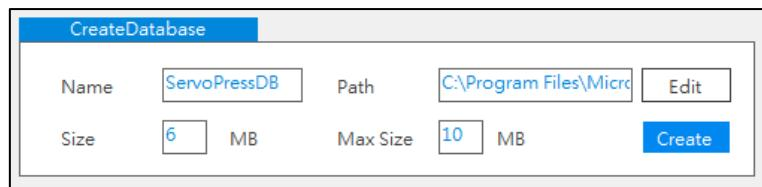
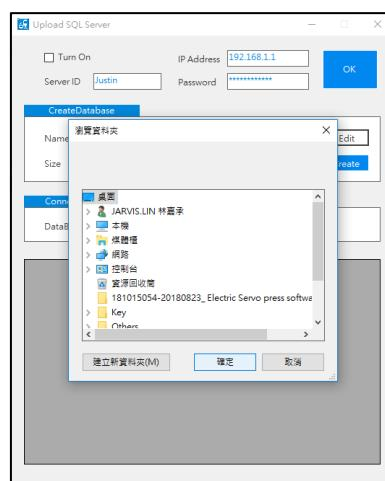
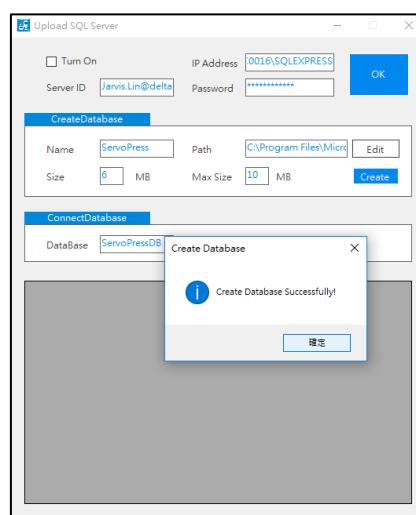

Figure 5-1-4 Create database
Figure 5-1-5 Change database path
Figure 5-1-6 Database successfully created
- (2) **Create database:** This function creates an assigned database including database name, database path, file size, and max file size for DIAServoPress data uploads in the connectable server, as shown in Figure 5-1-4. The database is named by the user. Once created, subsequent usage through [Connect Database] must be connected by this name. The database path is the created database's file access location, as in Figure 5-1-5. The file size is the initial size of the database file. The max file size is the upper limit for database file size after data augmentation. Click [Create] after finishing setting. If proper connection is established, DIAServoPress will automatically create fields and display a Creation Successful window on completion, as in Figures 5-1-6.